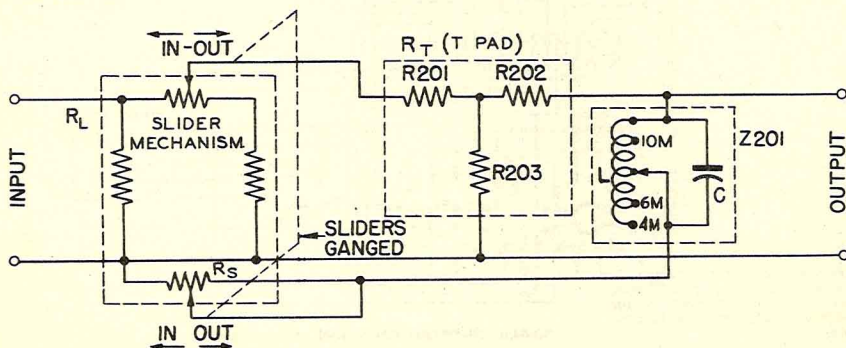

Figure 11. Simplified diagram of the automatic equalizer.
**b. Circuit Description.** The schematic diagram of the equalizer with the control box is shown in figure 12. The schematic diagram showing the control panel is illustrated in figure 13. For purposes of explanation refer to the simplified schematic diagram figure 11. The input consists of a variable-ladder pad  $R_L$  followed by a fixed T pad  $R_T$ . Shunted across the output of the T pad is the parallel resonant circuit Z201 in series with the variable resistor  $R_S$ . The pad  $R_L$  and the Resistor  $R_S$  are part of the slider mechanism whose impedance varies with the position of the cutter head on the disc. Note the operating conditions on the two extremities of the slider unit. With the slider in the outer position (maximum radius on the disc), the attenuation introduced by  $R_L$  and  $R_S$  is at a maximum. Since the tuned circuit, together with the variable resistor  $R_S$ , is shunted across the line, and because its impedance is high as compared with the load, the attenuation introduced by this circuit is negligible at all audio frequencies. Thus the main attenuation at the outer extremity is introduced by the network comprising  $R_L$  and  $R_T$ . With the slider at the inner extremity (near the center of the disc) where maximum high-frequency equalization is required,  $R_L$  and  $R_S$  offer minimum attenuation at all frequencies. Since  $R_S$  is now at minimum, its effect on the shunt circuit is negligible. Since the impedance of the tuned circuit Z201 is maximum at its resonant frequency, the shunt attenuation at resonance is minimum. The action of the equalizer circuit can be summarized as follows: At the outer extremity of the disc, the equalizer behaves as a pure resistive network offering equal attenuation at all frequencies (as when the equalizer switch is in the OFF position). At the inner extremity, attenuation is minimum in the pure resistive network and maximum for all frequencies in the shunt circuit except the resonant-frequency band covered by the tuned circuit. The resonant frequencies of 4,000 cps, 6,000 cps, 8,000 cps or 10,000 cps are obtained by the setting of the equalizer switch (SLOPE CONTROL) which selects the tapings on the coil L.